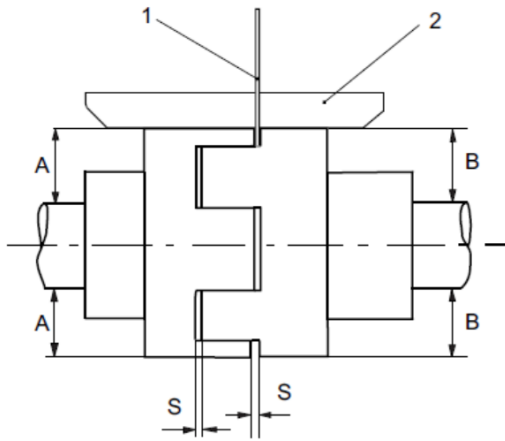

Fig. 8 Checking coupling adjustment.
1. Take the measurements at the circumference of the coupling in two planes with a 90° offset. Refer to Fig. 8 for checking coupling adjustment.
2. Check the light gap towards the outer diameter using a straightedge (1):